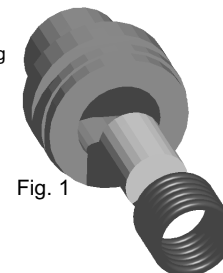

Fig. 1
2. Place the six delay O-rings (small, 3/32" thick) around the delay element, then rub a light coat of grease on the outsides of the O-rings. Avoid getting grease on the ends of the delay element (Figs 1 and 2).